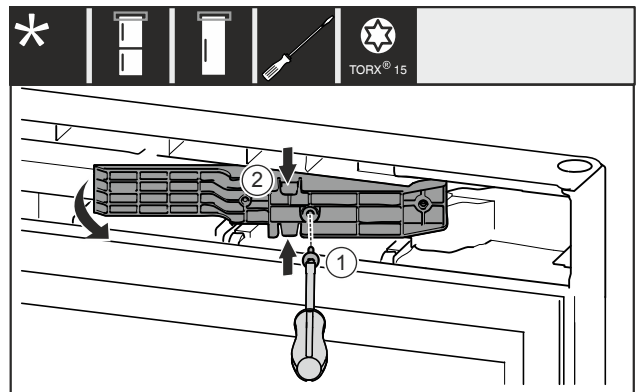

Fig. 14 *
- Remove the screw Fig. 14 (1)*
- Gently press the top and bottom of the adapter piece Fig. 14 (2) together and pull it out.*